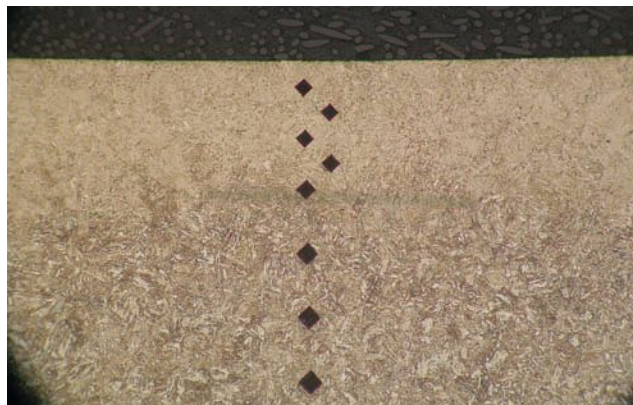

Figure 2. Example of effective case-depth determination by microhardness testing (courtesy of Solar Atmospheres, Inc.)
- **Effective case depth (U.S.):** The distance from the surface (in inches) to a point within the case where the hardness is 50 HRC (542 Knoop or 513 HV). This measurement is done on a cross section by microhardness techniques with a Knoop or Vickers indenter (Fig. 2). These values are then converted to Rockwell C hardness if a 500 gram-force load is used per ASTM E384 (latest revision). Interpolation is required to arrive at the proper case-depth value. The effective case depth depends on the carbon gradient and the case hardenability, but 50 HRC is typically equated to a carbon content of 0.40% in low-alloy steels and 0.30% in medium- and high-alloy steels.